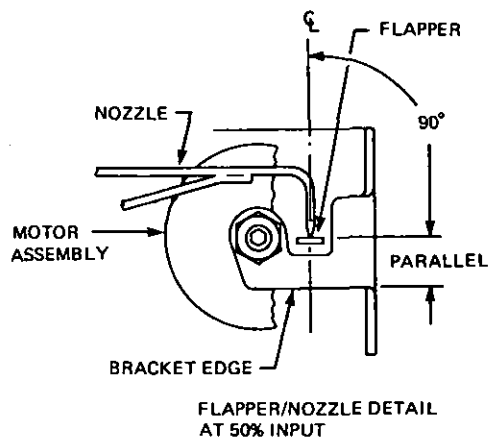

Figure 11
2. Apply 12 mA (50%) input signal and adjust zero screw to position flapper parallel to bracket edge as shown in Figure 11.